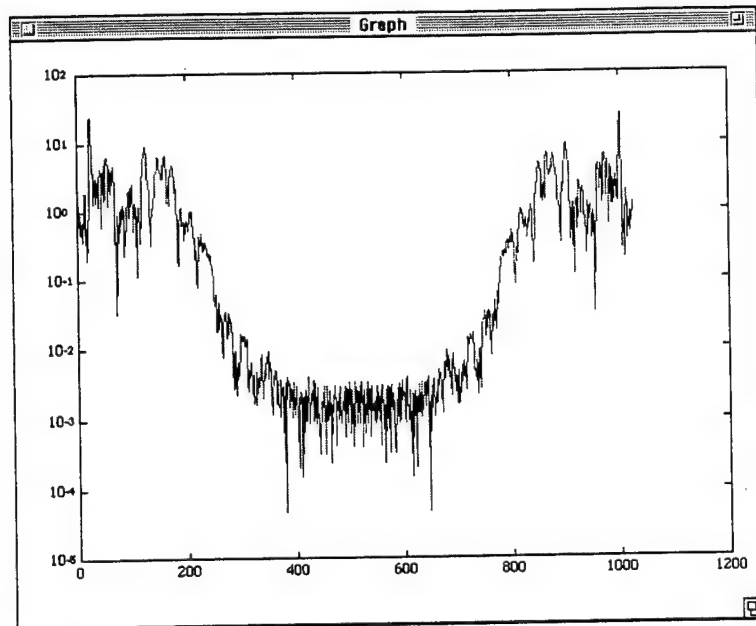

Figure 4.10: Frequency plot: 2-sided spectrum - 0560AZP6.HP
5. In general, `Y` will be complex. Usually, we are interested only in viewing the magnitude (although the phase has its uses as well). We can plot the resulting magnitude using the command `>> semilogy(abs(Y))` which plots the magnitude of `Y` against its indices. The corresponding output of my data file (0560AZP6.HP) is shown in Figure 4.10.